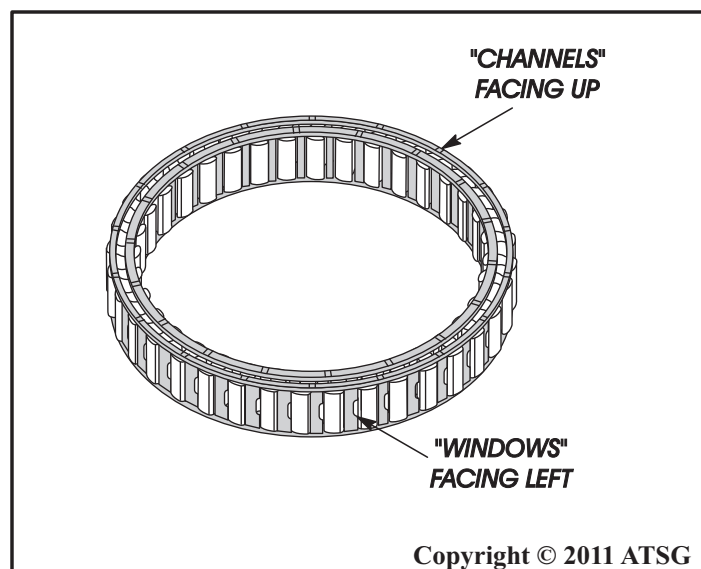

Figure 68
8. Install the low sprag and cage assembly with the "windows" facing to the left and the channels in the cage facing up, as shown in Figure 68 & 69.